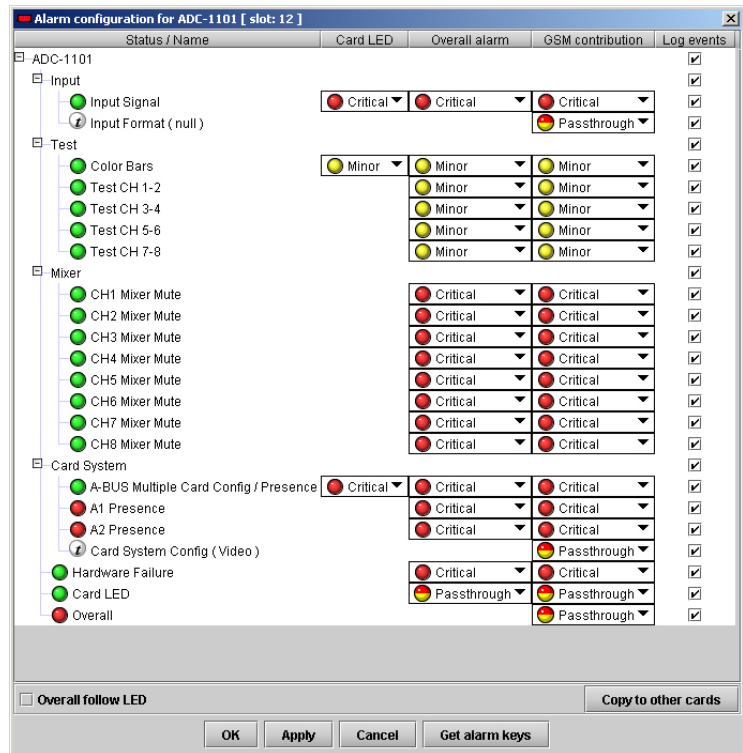

Figure 3.18 Alarm Configuration panel
- Some alarms are text-only (see Input Format or ABUS in fig. 3.18) and the alarm status is shown in the name and not by a status icon